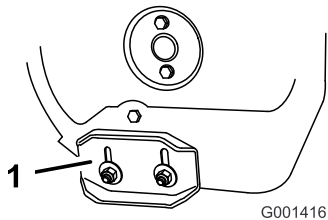

Figure 45
3. Loosen the nuts that secure both skids to the auger sides until the skids slide up and down easily (Figure 45).